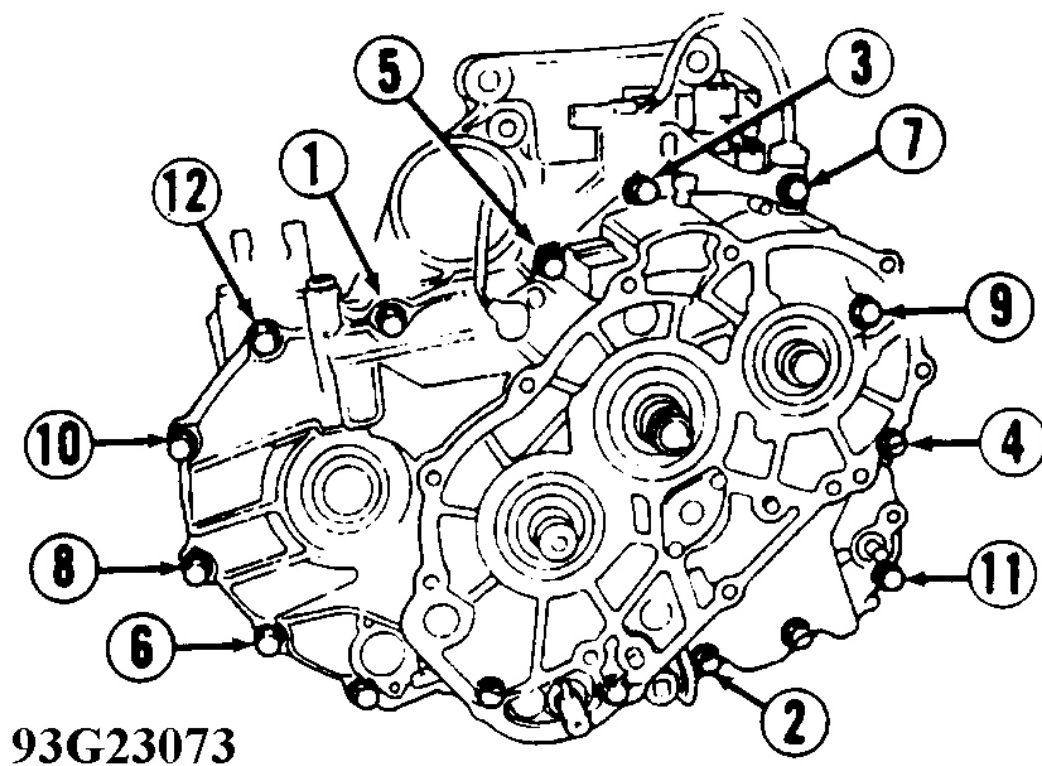

Fig. 36: Transaxle Housing Bolt Tightening Sequence
3. Install gasket and transaxle housing on torque converter housing. Install and tighten transaxle housing bolts in sequence to 40 ft. lbs. (54 N.m). See **Fig. 36** .